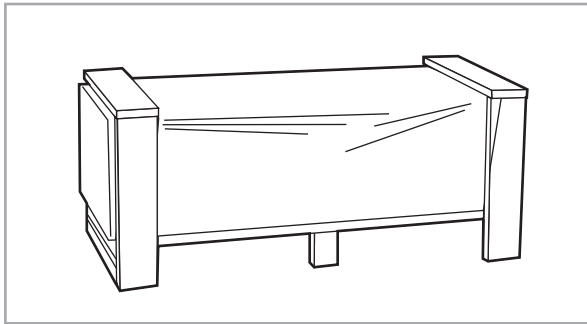

Figure 3.1
- 1) The package includes the heater, heater blocks (a) and small heater stones (b). Unpack the components with the box placed horizontally (see Figures 3.1 and 3.2).